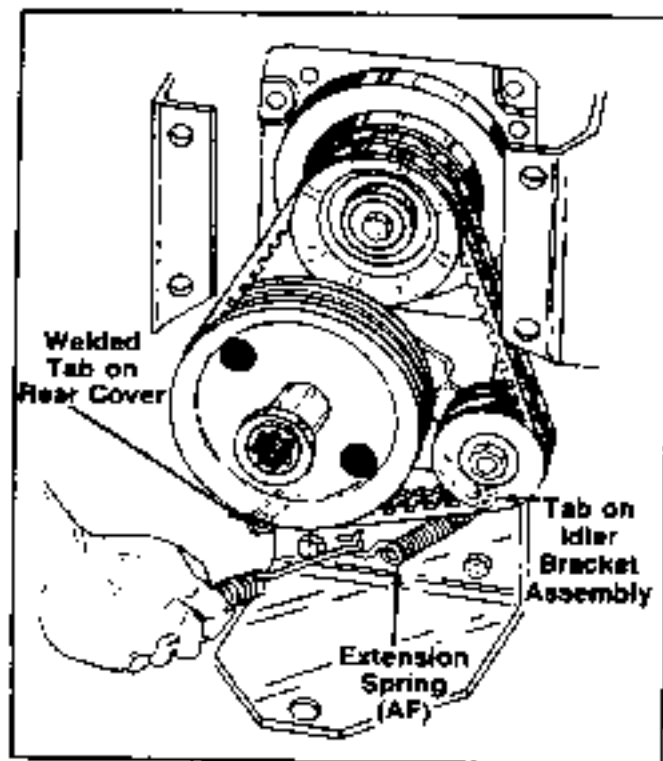

FIGURE 32.
41. Hook closed end of extension spring (AF) to welded tab on idler bracket assembly (16), using a suitable tool. Hook the other end of the spring to the tab on the rear cover plate. See figure 32